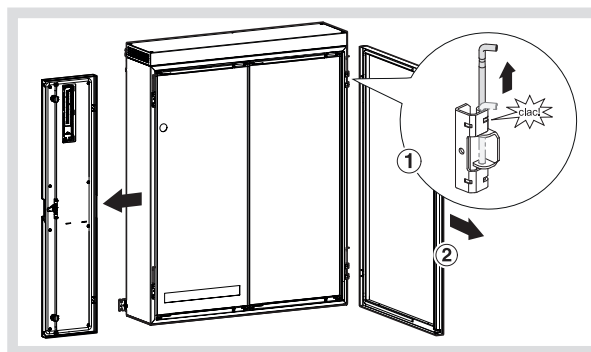

Figure 15: Door removal
- Push up the door split pin to remove the door. Once the energy storage system has been installed, replace the doors and fix them by pushing down the door split pins (Figure 15).